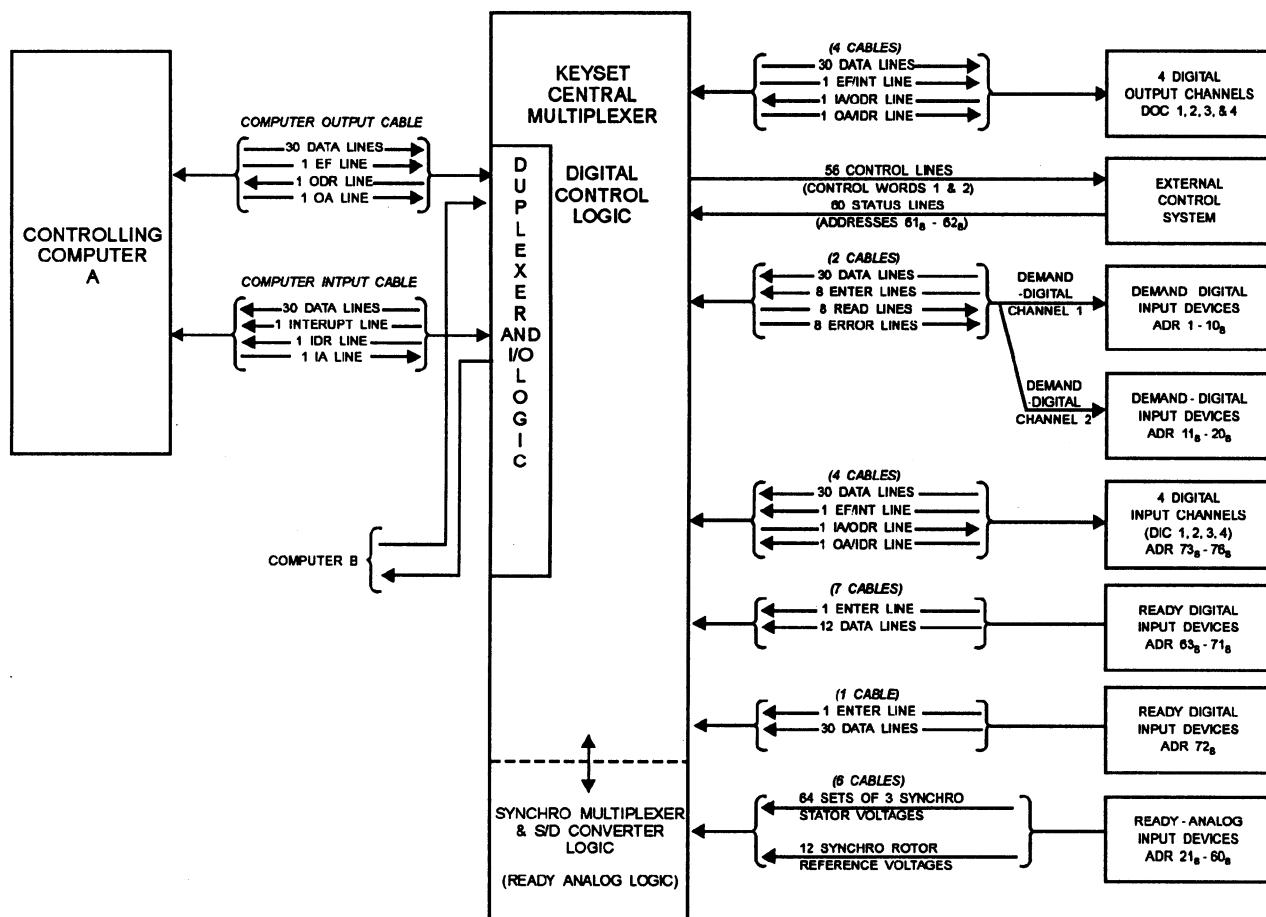

Figure 13-11.—KCMX block diagram.
computers and a variety of input/output devices including multiple control, status, and synchro signal interfaces. The KCMX allows the controlling computer to receive data and status information from external subsystems (missile, gun, electronic warfare [EW], antisubmarine warfare [ASW], and so forth) and to transmit data and control information to external subsystems. A simplified block diagram of the KCMX is shown in figure 13-11.
The duplexer (figure 13-11) allows the KCMX to be controlled by two computers on a one at a time basis. The duplexer is controlled by external function commands from the computers. Three external function commands are used to control the duplexer logic: request control, release local, and release remote.
The digital control logic (figure 13-11) puts the KCMX in one of its seven operating modes as specified by the controlling computer. The KCMX operating modes are neutral, duplex, transmit data from unit computer (TDUC), receive data from unit computer (RDUC), TDUC and RDUC, interrupt, and keyset error.
The 16 demand digital (DD) inputs (figure 13-11) use 30-bit words. Eight DD devices are daisy chained on each of two cables. Each DD device (keyset) is controlled by three control signals: enter, read, and error. A total of 24 control signals is required for the eight DD devices on an input cable.
READY DIGITAL (RD) INPUTS.— There are up to eight inputs for ready digital data (figure 13-11); KCMX addresses 63 through 71 are used for 12-bit data while address 72 is used for 30-bit words. This data is obtained from synchromechanical devices such as the radar azimuth converters (RACs). The data normally represents a digitized analog antenna position.
The KCMX is capable of receiving and transmitting data over four 30-bit CDS I/O channels (DIC1 through DIC4 and DOC1 through DOC4). The input channels are assigned KCMX addresses 73 (DIC1) through 76 (DIC4). The DIC/DOCs (figure 13-11) maybe used for input only devices, output only devices, or a DIC/DOC pair (DIC1/DOC1, DIC2/DOC2, and so forth), which can communicate with an I/O device.
Sixty status signals may be received by the KCMX (figure 13-11) via status inputs connected to KCMX addresses 61 and 62. Each KCMX status address provides a 30-bit status word when interrogated by the controlling computer. The condition of each status bit in the two status words is dependent on the condition of its associated status relay coil. The status relays complete the circuit between the KCMX and the external devices generating the status signals. Supply voltages used to generate status signals include but are not limited to 26 vdc, 50 vdc, and 115 vac 60/400 Hz.
The control signals (figure 13-11) are generated by the KCMX in response to control word outputs from the controlling computer. Individual bits set in the two
Processing of synchro inputs (ready analog data) is performed by the synchro multiplexer and synchro converter logic (figure 13-11). The KCMX can accept inputs from 32 three-wire synchros. Six cables are used to connect the synchro inputs and reference voltages to the KCMX. Five cables carry 6 synchro inputs and the sixth carries 2 inputs and up to a maximum of 12 reference voltage inputs. The first 24 synchro channels require 400-Hz reference voltages, while the last 8 may use either 60-Hz or 400-Hz.